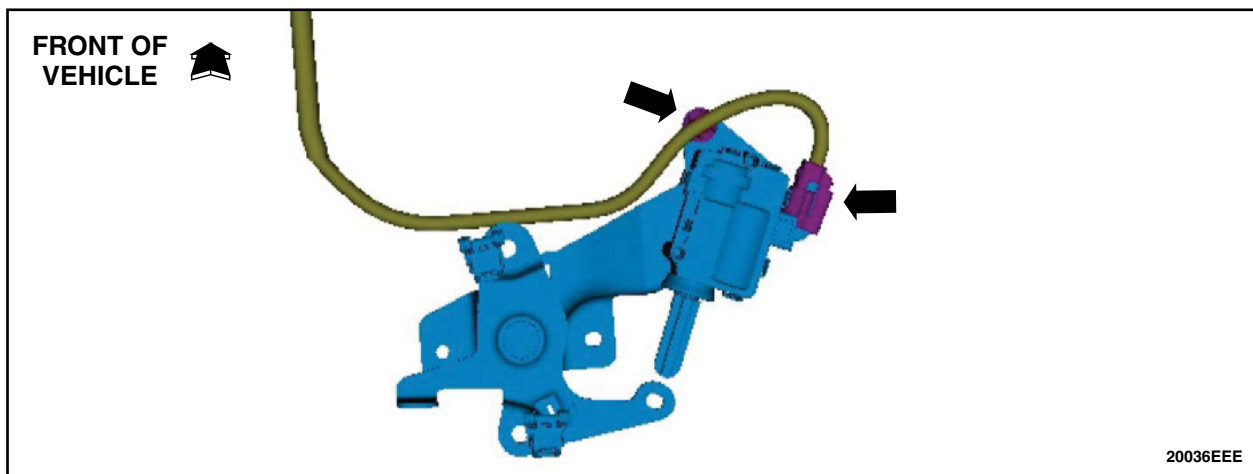

FIGURE 59
79. Reconnect the electrical connector and the push pin retainer. See Figure 59.